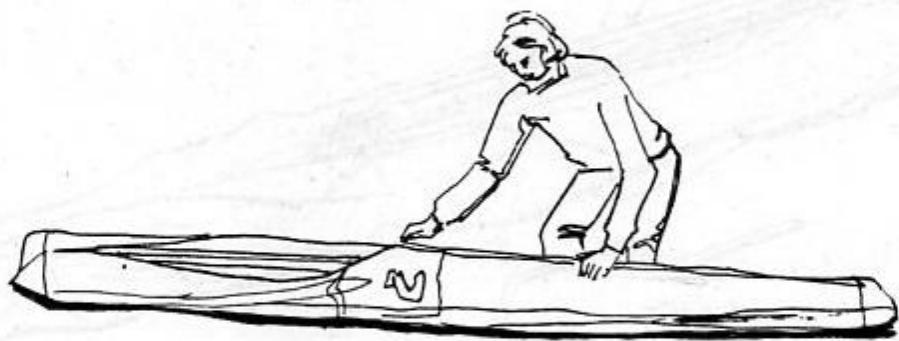

Fig. 3.2.2.
2. Undo the zipper (Fig. 3.2.2).